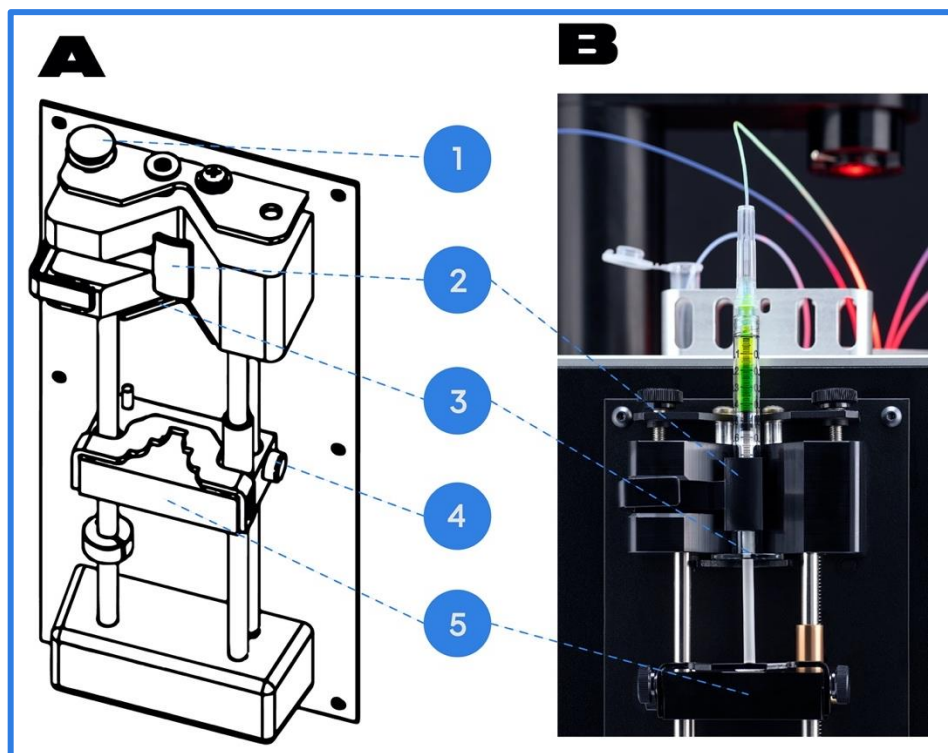

Figure 5. Syringe pump schematic (A) and view with attached syringe (B).
1. To make space for the syringe, push the latch release button (4) and move the pusher (5) downwards making space for the syringe with an extended plunger (Fig. 5).
2. Lift the syringe clamp (2) (Fig. 5).
3. Place the syringe in the holder (3) and tighten the holder screws (1) for a secure fit (Fig. 5).
4. Secure the syringe clamp (2) as shown in Figure 5.
5. Push the latch release (4) and move the pusher (5) close to the syringe plunger (Fig. 5).